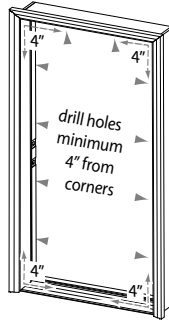

Figure 5
- Drill 4 holes on each side and 2 holes in head of door frame (figure 5), to accommodate installation screws. First hole and last hole should be 4" from corners (head as well). Drill 2 more holes on each side equal distance from corner holes. Holes should be drilled on thinner side of wood so weatherstrip will cover when complete (figure 4). For units with sidelites, holes will need 3/16" countersink to avoid wood tear out. Unit holes will need to be puttied and stained when install finished.